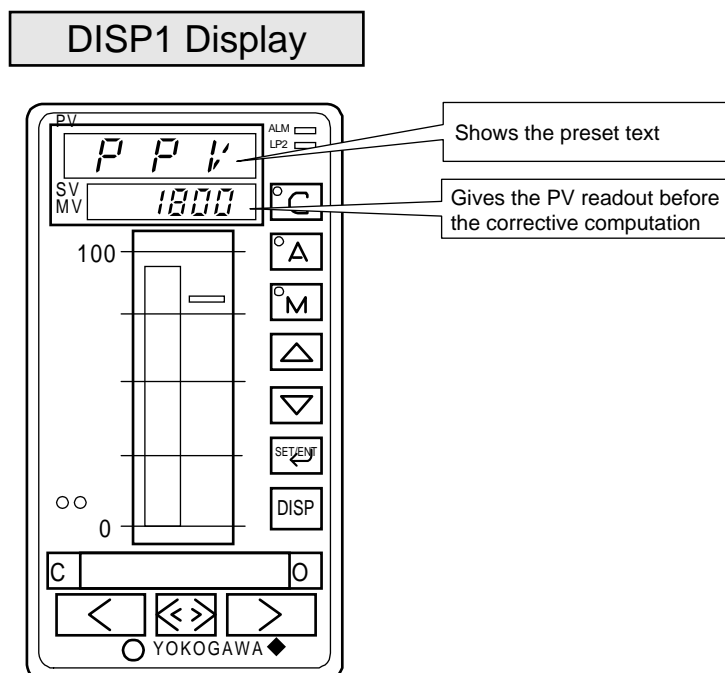

Figure 12.2.11 Example of the DISP1 Display Configured to Show “PPV” on Its PV Digital Display
- ② In the text box, type the text you want to show on the PV digital display. You can type a maximum of five half-byte alphanumeric characters. Figure 12.2.11 is an example where “PPV” is set as the text.